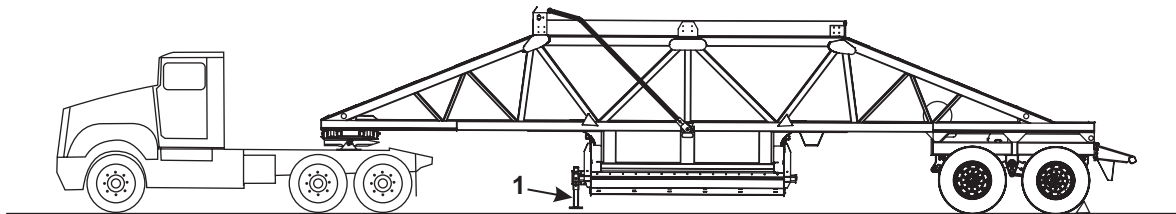

Figure 3-16 – Tractor and Semitrailer Coupled
- Slightly raise the support legs until there is a small space between the parking area grade and the landing pad (1, Figure 3-16).